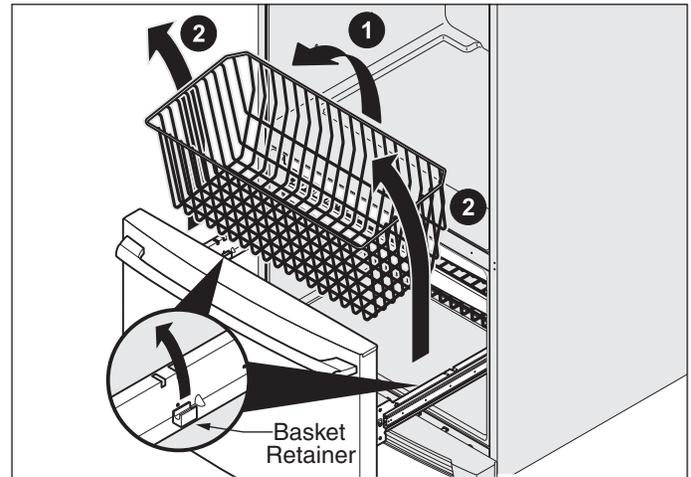

Figure 6-21.
2. Remove the basket by tilting it forward and lifting it from the retainer clips. (See Figure 6-21)